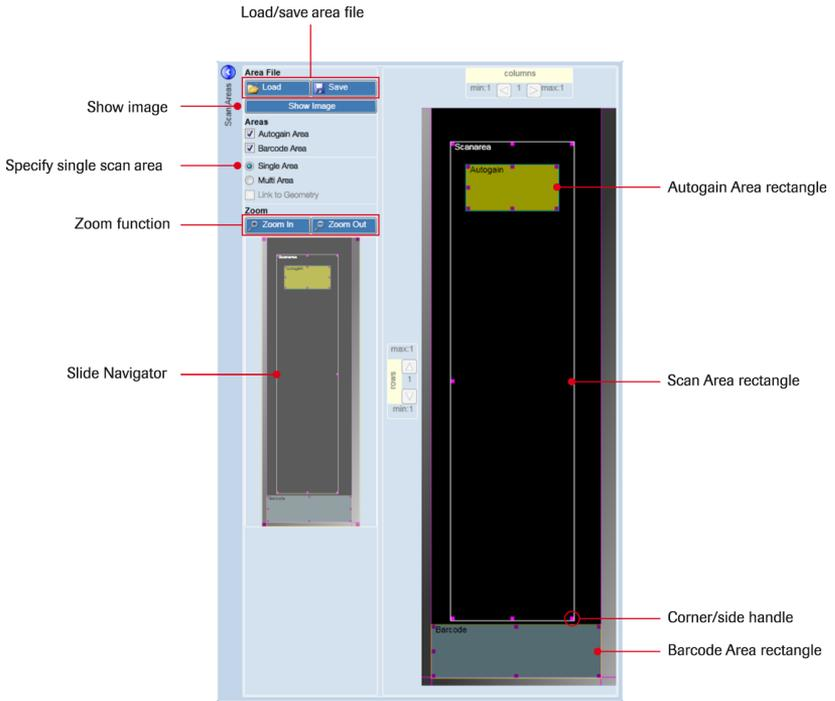

Figure 28: Area Definition Control for Specifying a Single Scan Area
3. If necessary, open the Area Definition Control (Figure 28).
1. Click **Load** in the Area Definition Control (Figure 28).